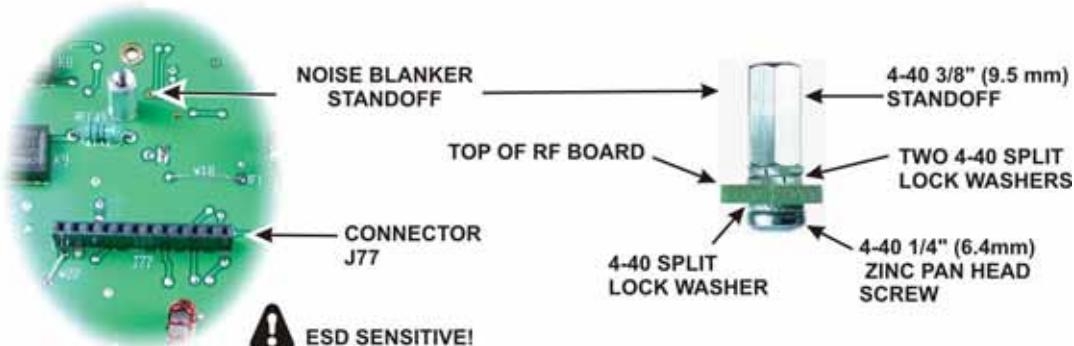

Figure 84. Installing Noise Blanker Standoff.
- Install the standoff for the noise blunker as shown in Figure 84. The location of J77 is to the left of crystal filter position FL5 on the RF board. Be sure to put **two** split lock washers between the standoff and the RF board as shown.